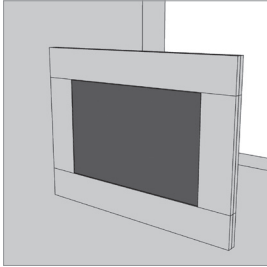

Fig. 1:
- / If the thickness of the rigid wall in the area of the through penetration firestop system is less than the required minimum seal thickness, then all around the opening, either an enclosing lining (see Fig. 2) or a board frame (see Fig. 1) of non-flammable drywall or silicate or calcium silicate boards (class A2-s1, d0 or A1 in accordance with EN 13501-1) must be provided.
- / If the thickness of the flexible wall in the area of the through penetration firestop system is less than the required minimum seal thickness, then all around the opening, either an enclosing lining (see Fig. 2) or a board frame (see Fig. 1) of non-flammable drywall or silicate or calcium silicate boards (class A2-s1, d0 or A1 in accordance with EN 13501-1) must be provided.